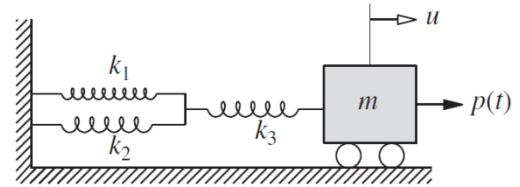

Figure 1
1) Starting from the basic definition of stiffness, determine the effective stiffness of the combined spring and write the equation of motion for the spring-mass systems shown in Fig 1.